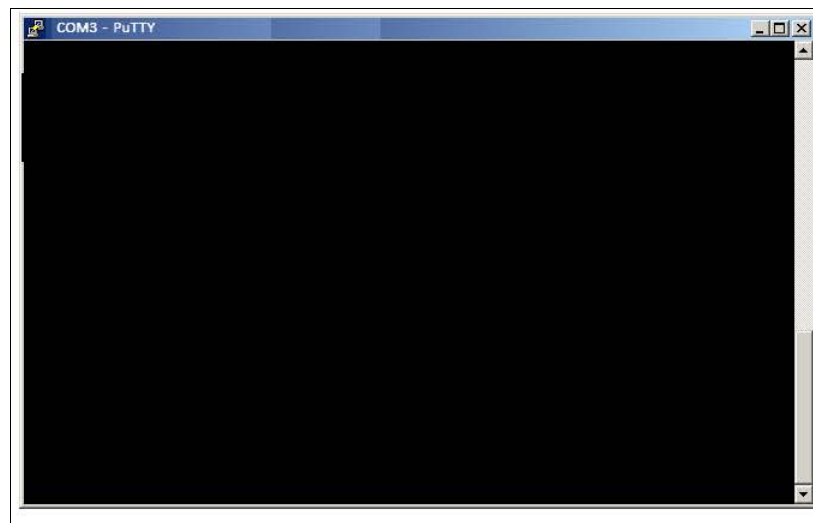

Figure 14. PuTTY Terminal Window
4. Open your preferred terminal program, be sure to select the correct serial port and set the proper baud rate, data bits, stop bits and parity. (Figure 14).